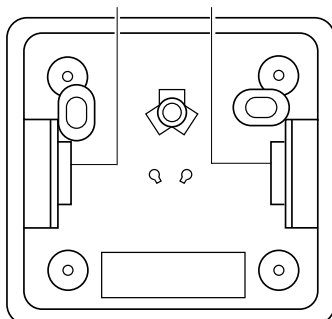

Figure 41 - Back View of Thermostat Base
6. Feed the electrical wires through the rectangular slots (from the back) on each side of the base (see Figure 41).